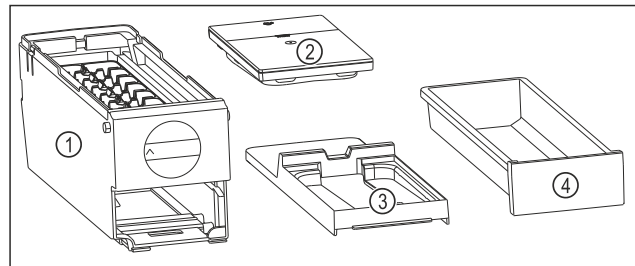

Fig. 143 Components of the EasyTwist-Ice
- ▷ EasyTwist-Ice is dismantled into four parts. (see Fig. 143)
- ▶ Only dismantle the EasyTwist-Ice into the components shown. (see Fig. 143)
- ▶ Clean the EasyTwist-Ice body Fig. 143 (1) as a whole.